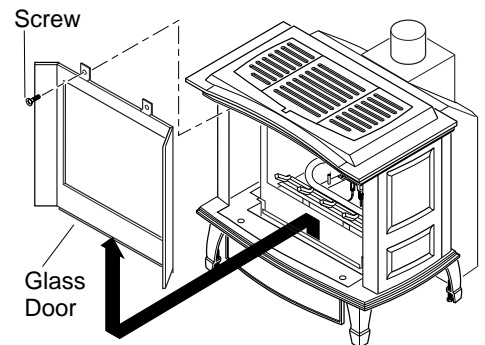

Figure 42 - Removing Glass Door from Firebox Insert
2. Remove the screws from the 2 tabs at the top of the glass door while holding door securely keeping it from falling forward (see Figure 42).
3. Grasp door by both sides and ease it upward off of the lower bracket (see Figure 42).